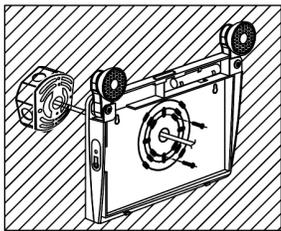

Fig. 7
- b) Pull wires through the back mounting plate then connect the back mounting plate to the junction box mounting plate with screws (Fig. 7).